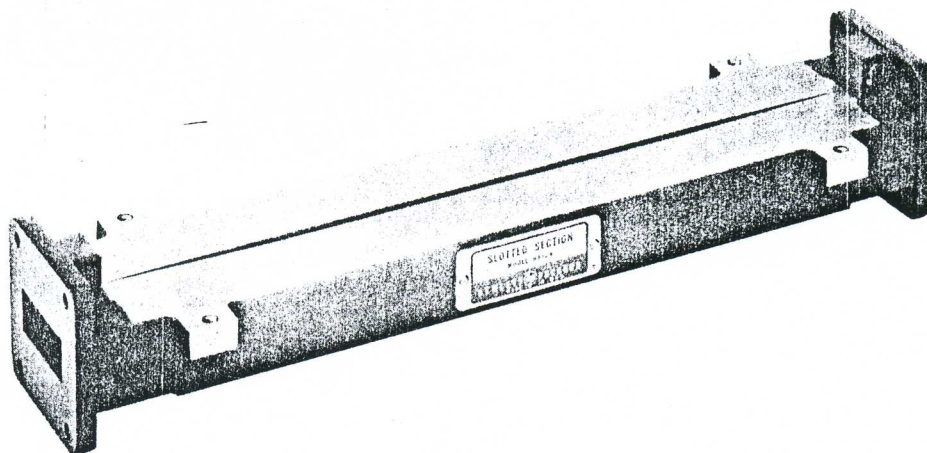

Figure 1. Model H810B Slotted Section
2. Model 810B slotted sections (Figure 1) are designed for use with the Model 809B/C Universal Probe Carriage